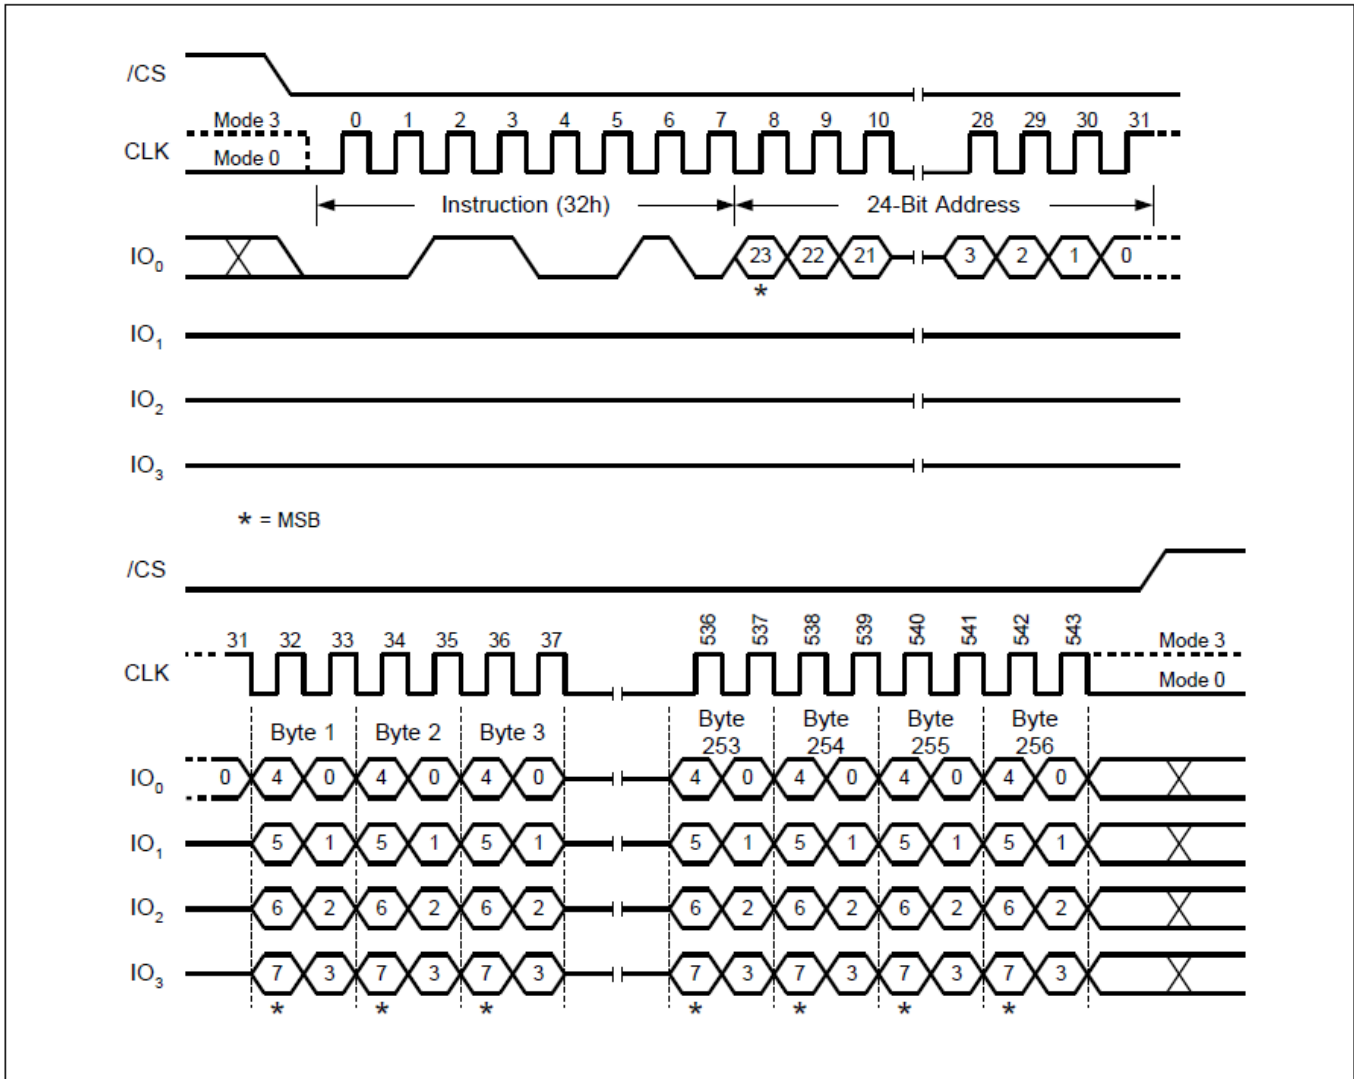

Figure 17 Quad Page Program Sequence Diagram
To use Quad Page Program the Quad Enable (QE) bit in Status Register-2 must be set to 1. A Write Enable instruction must be executed before the device will accept the Quad Page Program instruction (Status Register-1, WEL=1). The instruction is initiated by driving the /CS pin low then shifting the instruction code "32h" followed by a 24-bit address (A23-A0) and at least one data byte, into the IO pins. The /CS pin must be held low for the entire length of the instruction while data is being sent to the device. All other functions of Quad Page Program are identical to standard Page Program. The Quad Page Program instruction sequence is shown in Figure 17.